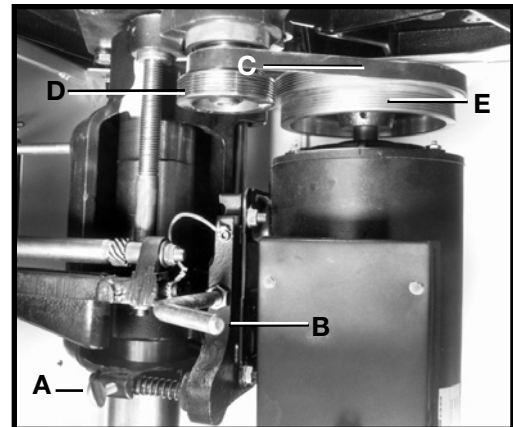

Fig. 24
2. Loosen the thumb screw (A) Fig. 24. Release tension on the belt by moving the lever (B) to the left. Position the belt (C) on the desired steps of the spindle pulley (D) and the motor pulley (E), and apply belt tension by moving the lever (B) to the right. When the desired belt tension is attained, tighten the thumb screw (A).
3. Proper belt tension is approximately a 3/32" deflection when using light finger pressure on the belt between pulleys. **IMPORTANT:** Pulleys (D) and (E) Fig. 24 should always be aligned with each other to provide maximum belt performance and reduce belt wear. To check pulley alignment, refer to section "REPLACING SPINDLE CARTRIDGE".